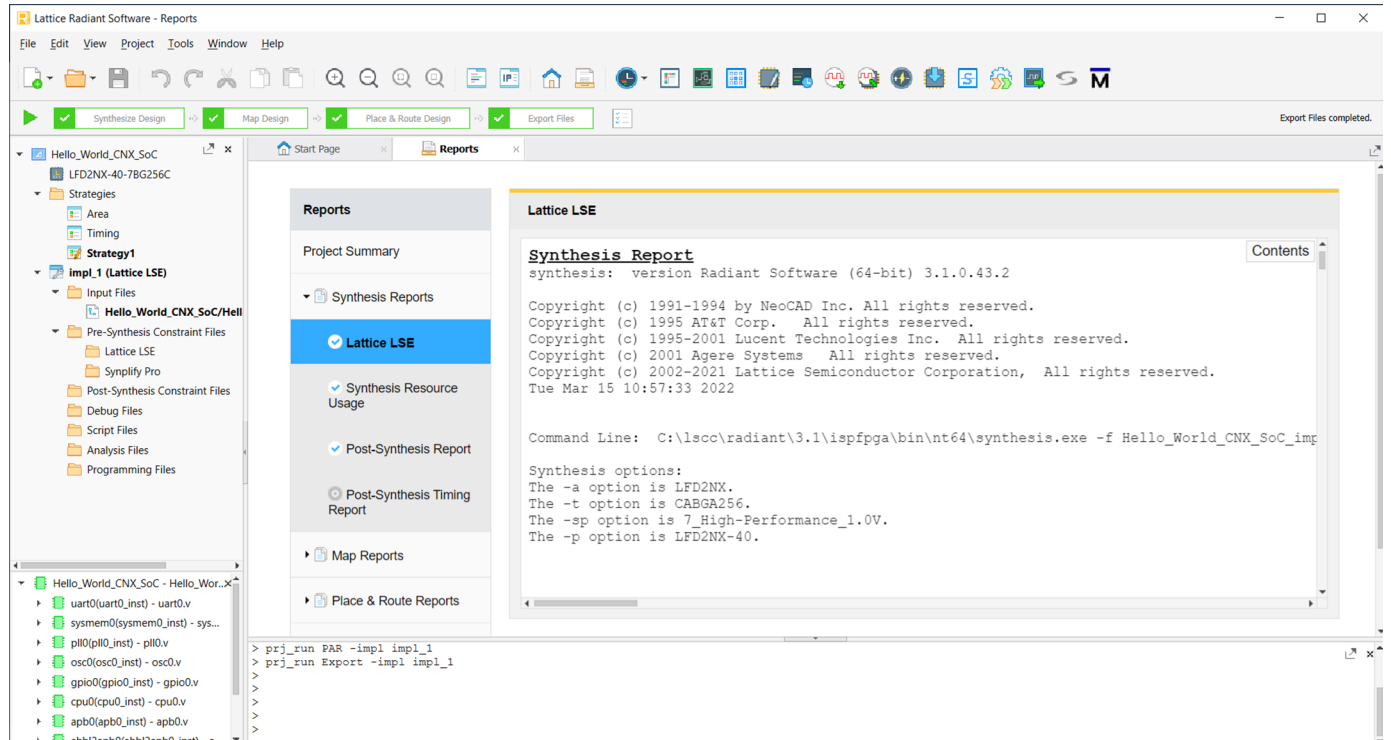

Figure 14: Opening the Project in Lattice Radiant
11. Back in the **Project Explorer**, highlight **Hello_World_CNX_SoC** and select run **Lattice Radiant** , **Lattice Radiant Software** opens in a new window, see **Figure 14**.